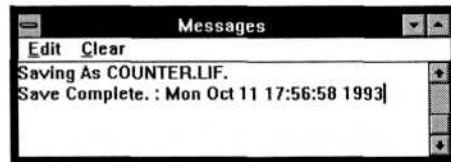

Figure 3-8. Successful Design Save
22. From the Design Manager menu bar, select **File** => Save As. The pDS software prompts you for the name of the file that you are saving. Type in the name COUNTER. The suffix .lif (Lattice Internal Format) is automatically appended. Select the drive and the directory. Click OK. Check the Messages window (Figure 3-8) for a successful save message.